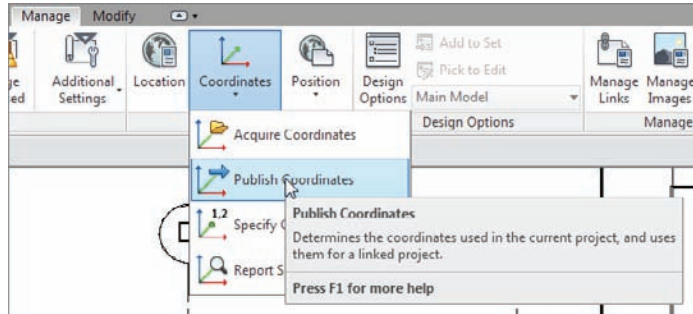

FIGURE 20.23 Publishing the coordinates
1. On the Project Location panel of the Manage tab, click **Coordinates > Publish Coordinates**, as shown in Figure 20.23.